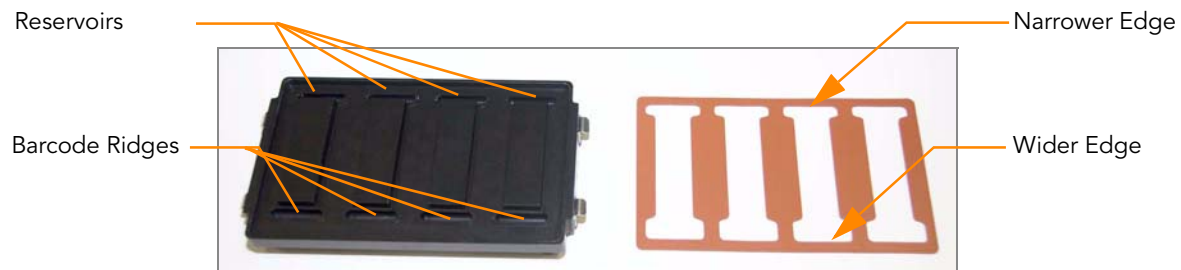

Figure 33 Hyb Chamber and Gasket
- Match the wider edge of the Hyb Chamber gasket to the barcode-ridge side of the Hyb Chamber (Figure 33).